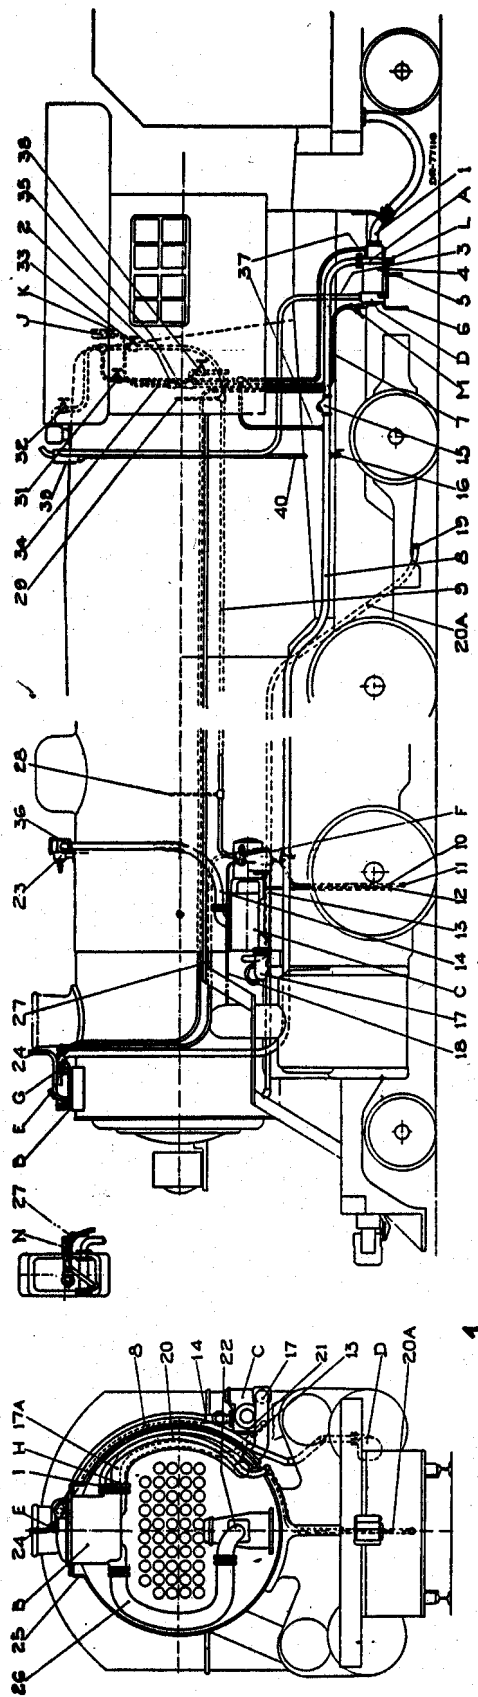

FIG. 1. Typical Installation of the Worthington Types SA and SAS Locomotive Feedwater Heating Equipment.
1. Screens for steam line strainers "M" and "N", Fig. 1, must be removed and cleaned, or replaced if necessary.